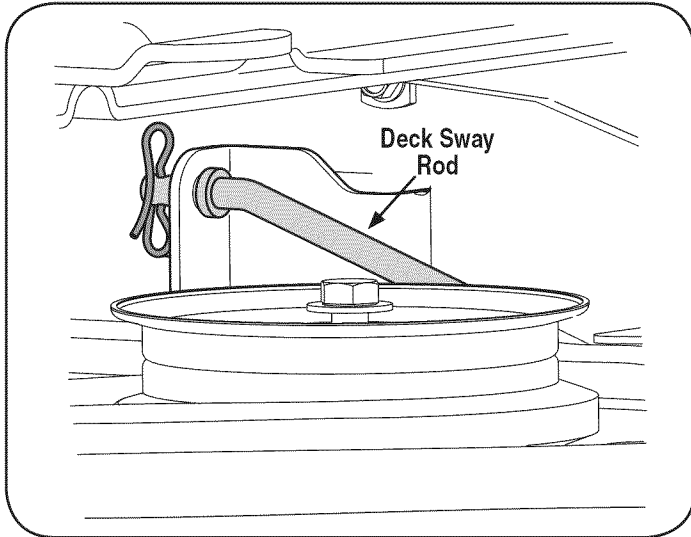
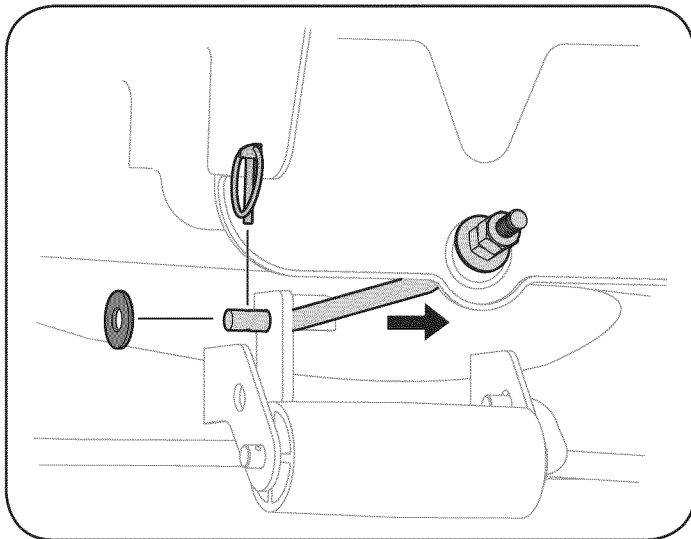

Figure 13
Figure 14
9. Remove the bowtie cotter pin connecting the deck sway rod to the tractor frame. See Figure 13.
10. Gently slide the cutting deck toward the front of the tractor, carefully guiding the hooks on the deck off of the deck stabilizer rod. See Figure 14.
10. Reinstall the deck sway rod (See Figure 13) and deck stabilizer rod (See Figure 14).